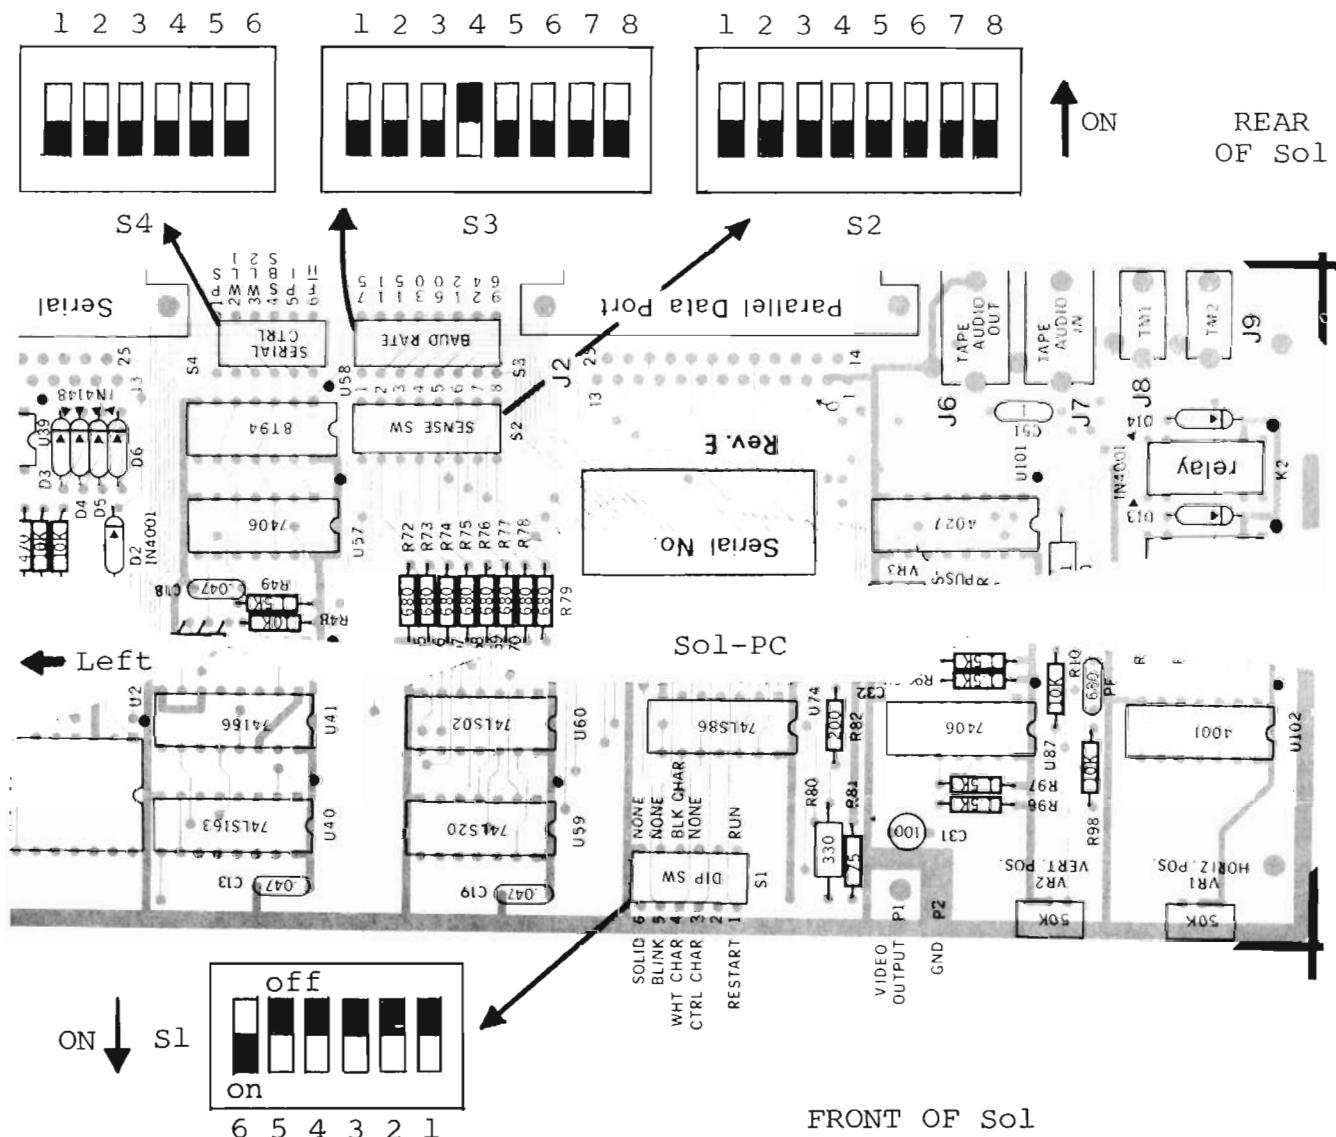

Figure 7-2. Sol control switch settings for terminal mode.
- ( ) Step 7. Set Sol control switches as follows (see Figure 7-2 on Page VII-7):